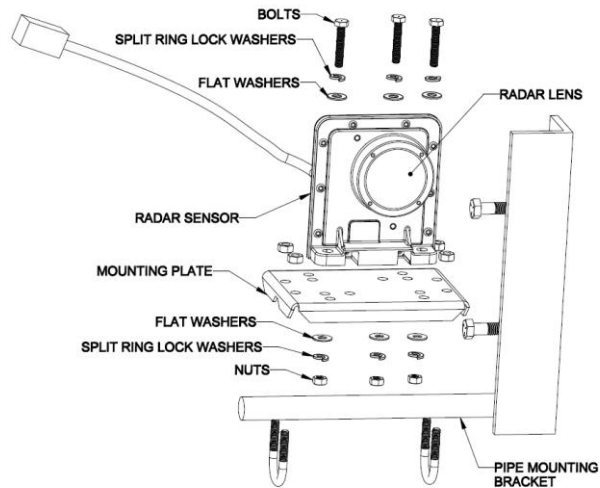

Figure 4: Radar Mounting
1. Select a location (on the inside of the main frame, when possible) to install the radar “L” pipe mounting bracket. If possible, select a location where two existing bolts can be used and drill matching holes in the angle iron on the pipe mounting bracket. Figure 4 shows some typical mounting positions.